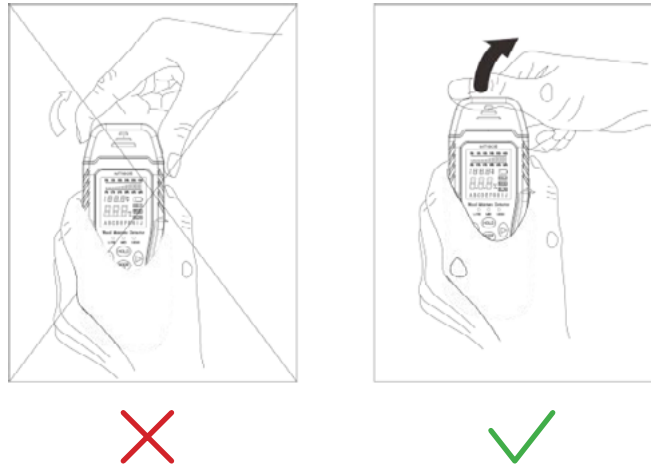

Figure 1
- Remove the protective cap as shown below (Fig. 1).